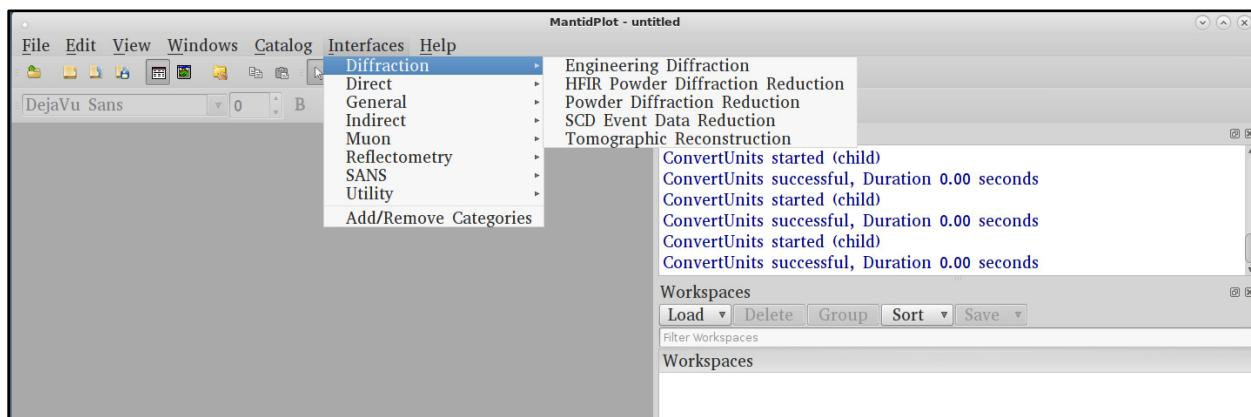
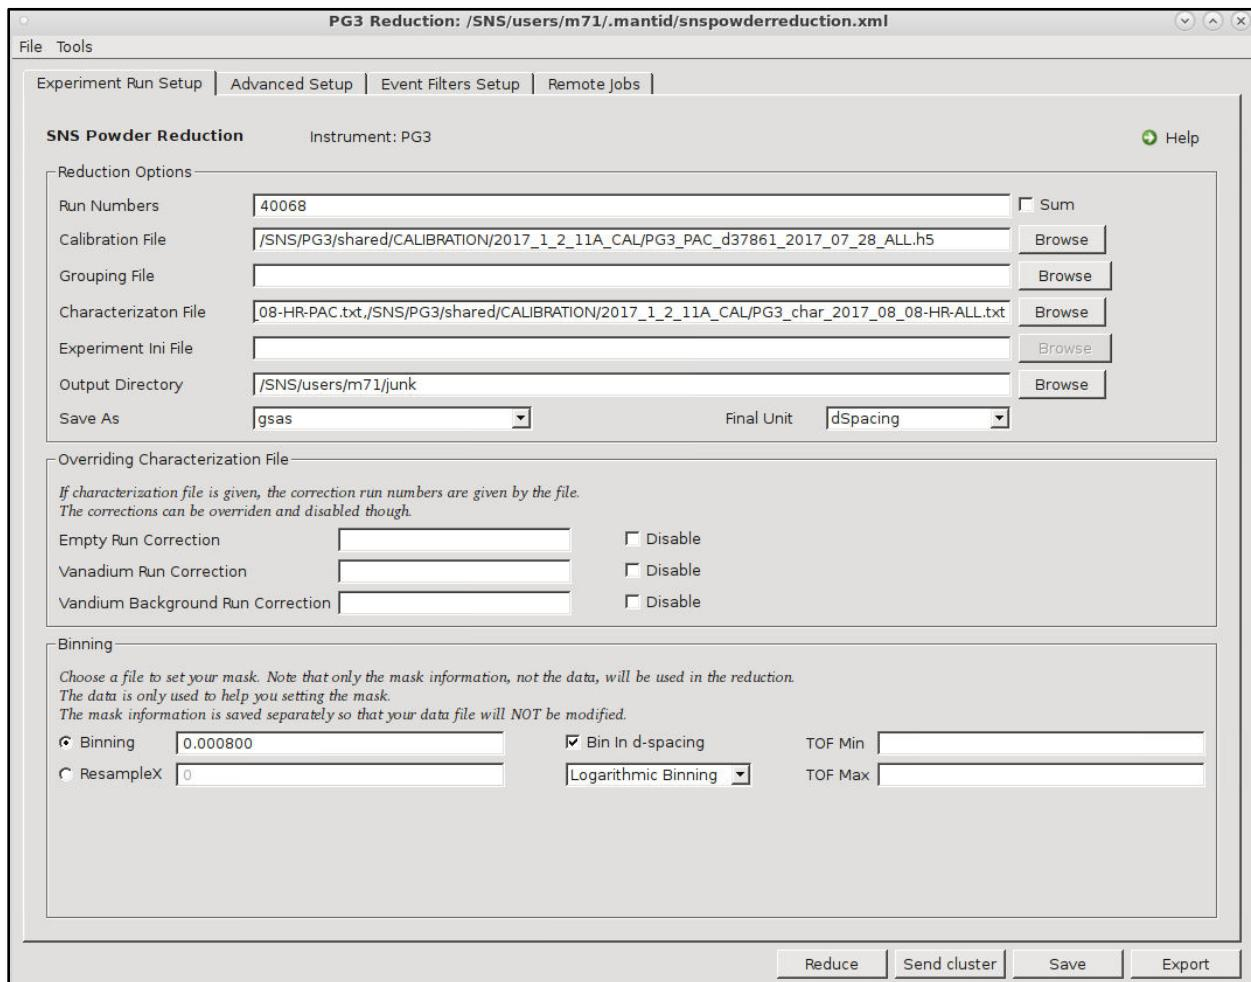
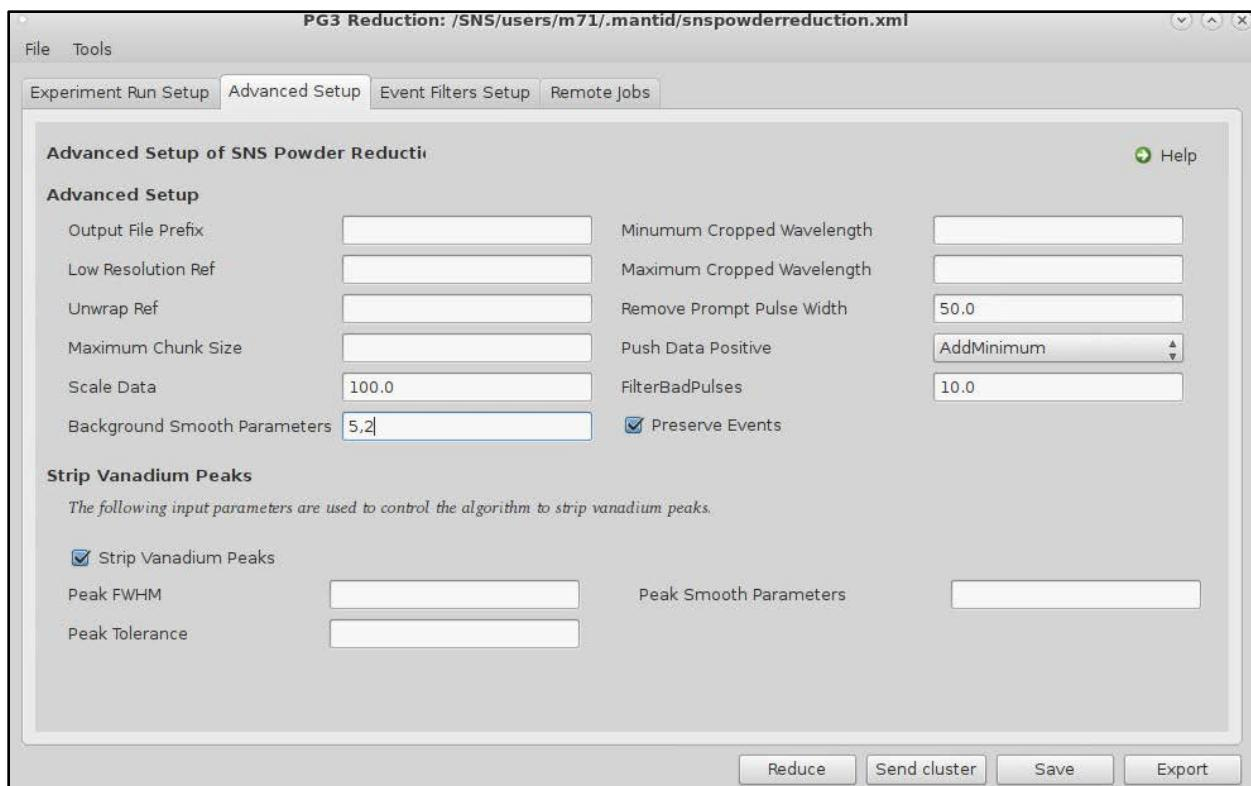

Figure 1. Opening the Powder Diffraction Reduction window.
Figure 2. Main tab of the Powder Diffraction Reduction window.
Figure 3. Advanced Setup tab of the Powder Diffraction Reduction window.
**Reducing data with custom settings:** Data are automatically reduced into gsas, fullprof and topas formats. If you want to rebin the data (different from what autoreduce creates) or do some special subtraction of background, you can re-reduce the data yourself using MantidPlot. In the main menu pick Interfaces→ Diffraction→ Powder Diffraction Reduction (Figure 1). This will launch the PG3 Reduction window (Figure 2). For a standard data reduction, enter the parameters on the Experiment Run Setup (Figure 2) and Advanced Setup (Figure 3) tabs, as indicated below.
## SNS Powder Reduction → Experiment Run Setup tab (Figure 2):
## SNS Powder Reduction → Advanced Setup tab (Figure 3):